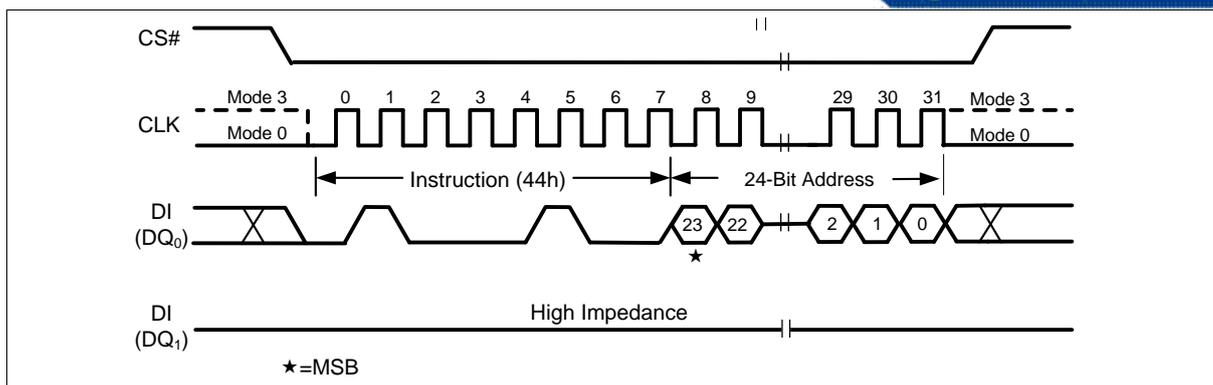

Figure 60 Erase Security Sector Instruction (SPI Mode only)
The Erase Security Sector instruction sequence is shown in Figure 60. The CS# pin must be driven high after the eighth bit of the last byte has been latched. If this is not done the instruction will not be executed. After CS# is driven high, the self-timed Erase Security Sector operation will commence for a time duration of t_{SE} (See “11.6AC Electrical Characteristics”). While the Erase Security Sector cycle is in progress, the Read Status Register instruction may still be accessed for checking the status of the WIP bit. The WIP bit is a 1 during the erase cycle and becomes a 0 when the cycle is finished and the device is ready to accept other instructions again. After the Erase Security Sector cycle has finished the Write Enable Latch (WEL) bit in the Status Register is cleared to 0. The Security Sector Lock Bit (LB) in the Status Register-2 can be used to OTP protect the Security Sector. Once a lock bit is set to 1, the Security Sector will be permanently locked and Erase Security Sector instruction will be ignored.